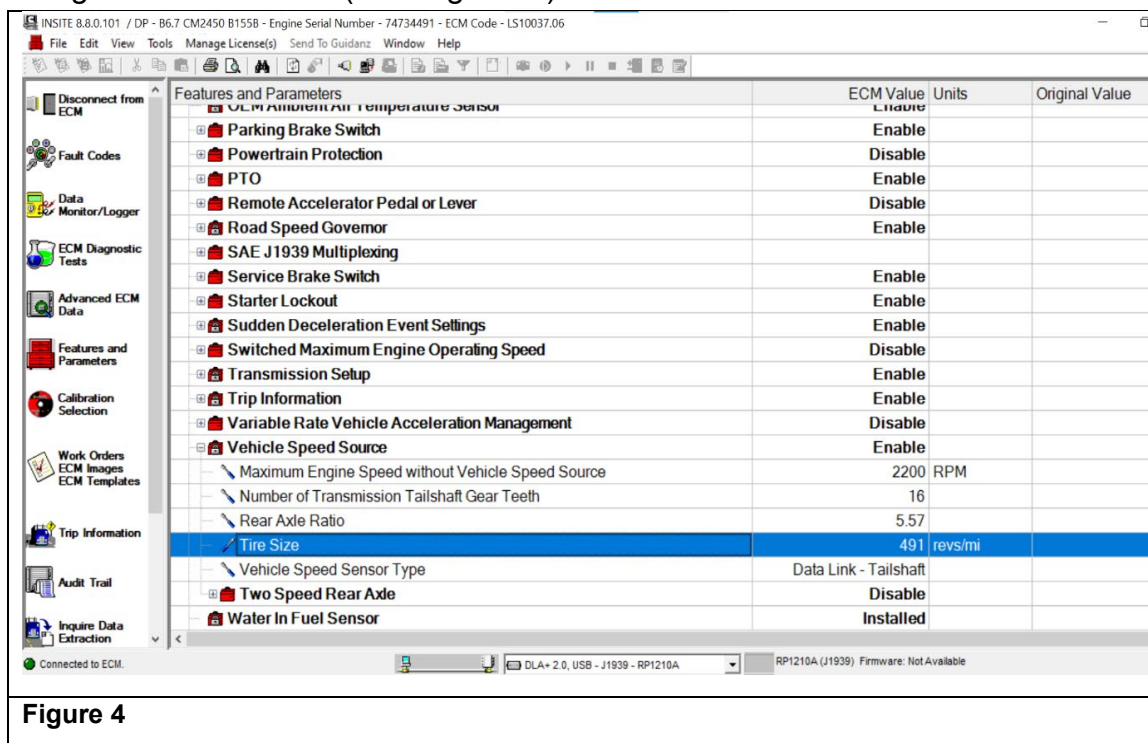

Figure 4
8. Navigate to “Tire Size”. (See Figure 4.)